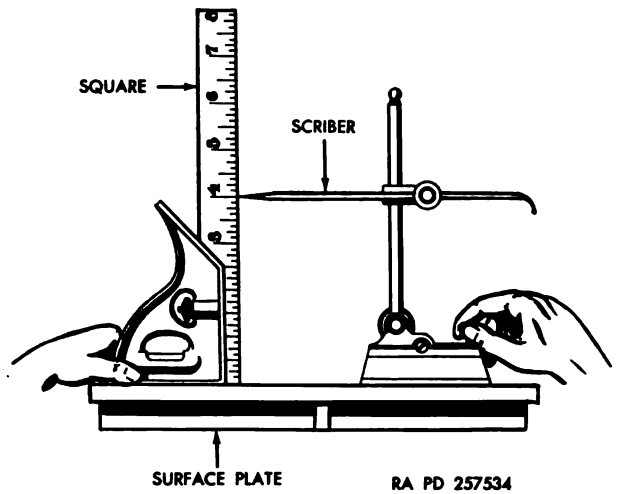

Figure 64. Setting surface gage scriber on surface plate.
- (a) Figure 64 shows the surface gage being set to the scale of a combination square on a surface plate previous to scribing a surface. Note that the final adjustment of the scriber point is being made with the rocker adjusting screw.